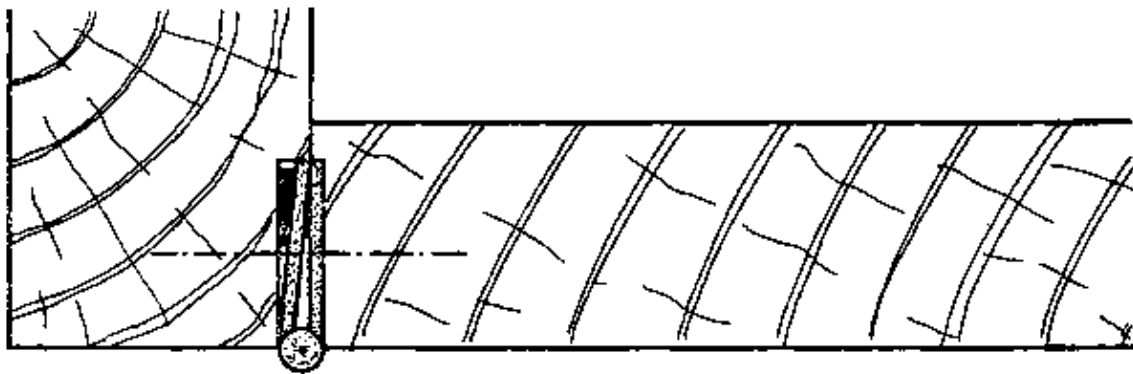

Fig. 2
– When a door binds on the locking post, insert the wood strip at the back of the hinge, to force the door away from the lock post (Fig. 2).